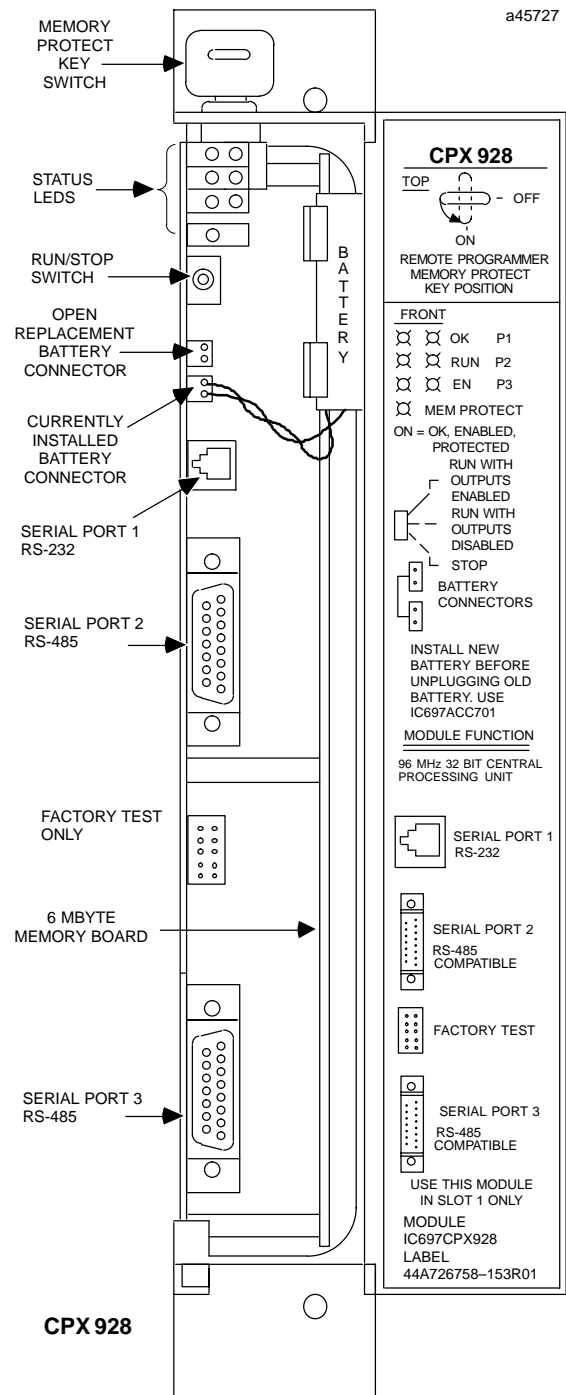

Figure 2. CPX 928 - Location of Major Features
- Connect the battery to either of the battery connectors on the module (see Figure 2).